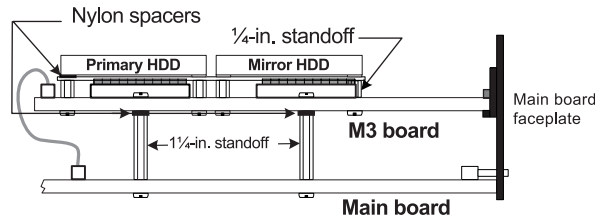

Fig. M3-1: Mounting locations of M3 hardware
The M3 kit consists of an M3 printed circuit board, hard drive mounting plate, faceplate, four (4) 1¼-inch standoffs, 12 nylon spacers (washers), eight (8) screws, and an IDE cable for connection to the main board. Refer to **Fig. M3-1**, *below*, to identify and locate where these components will be installed.